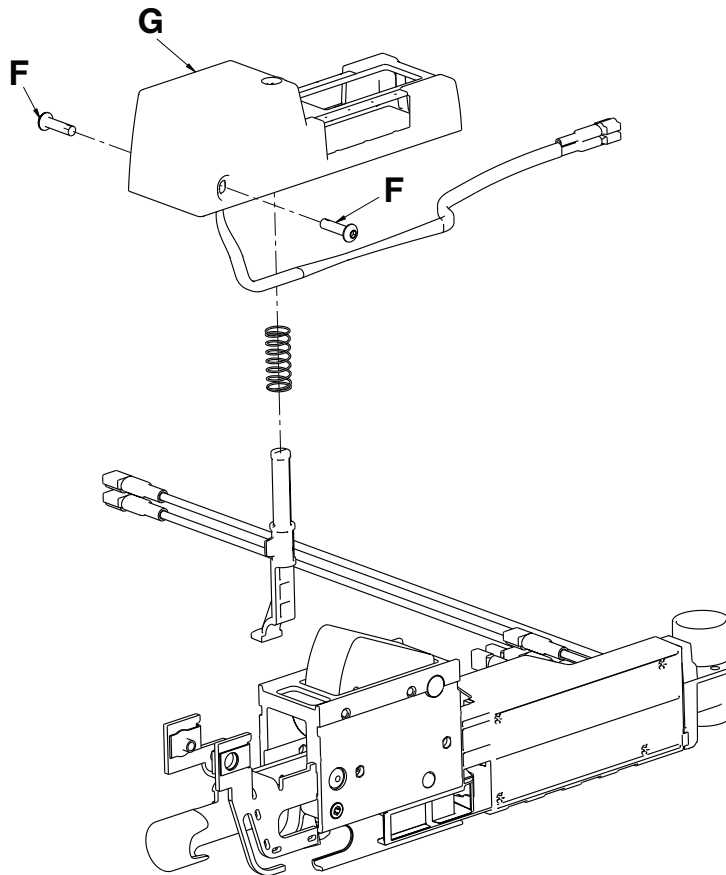

**Figure 45: Remove the retainer wings**
11. Using a T25 Torx driver, remove the four button head cap screws (E) that secure the two retainer wings and remove the retainer wings (Figure 45 on page 75). Save all parts.